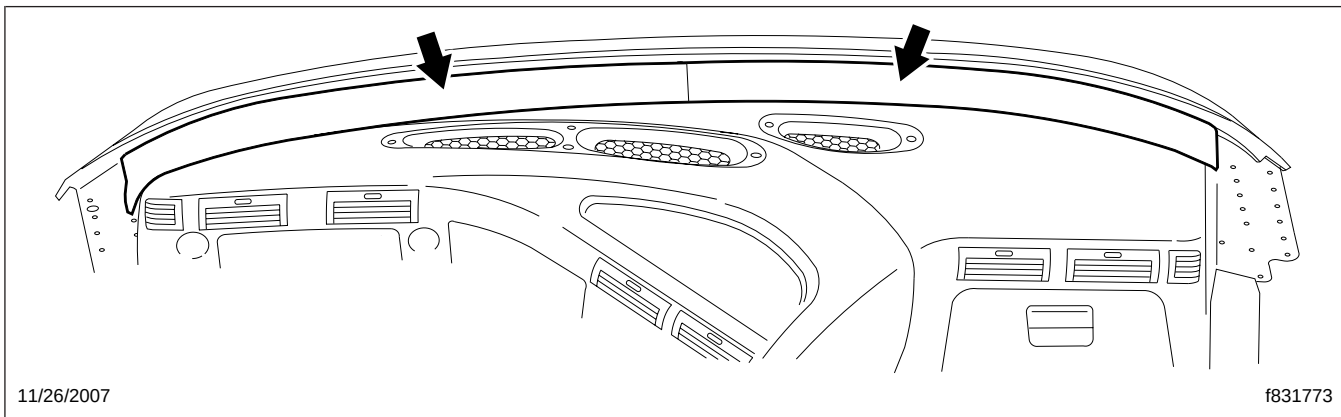

Fig. 6, Upper Dash Trim Panel
10. Remove the trim panel between the top of the dash and the windshield. See Fig. 6.